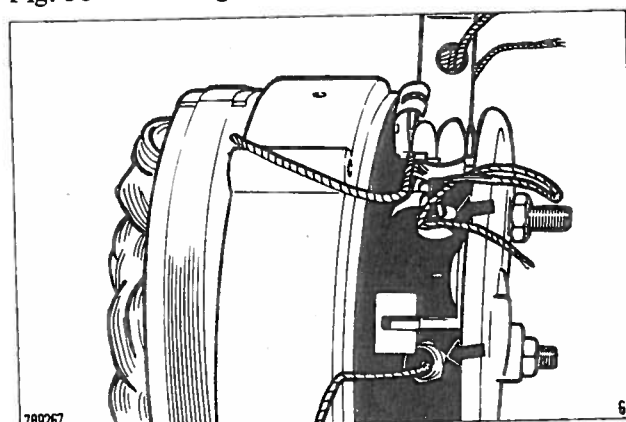

Fig. 54 Removing exciter diodes
7. To remove the exciter diodes, screw out with socket wrench Fig. 54. If it is necessary to replace the output diodes, the slip-ring end frame must be dismantled further.